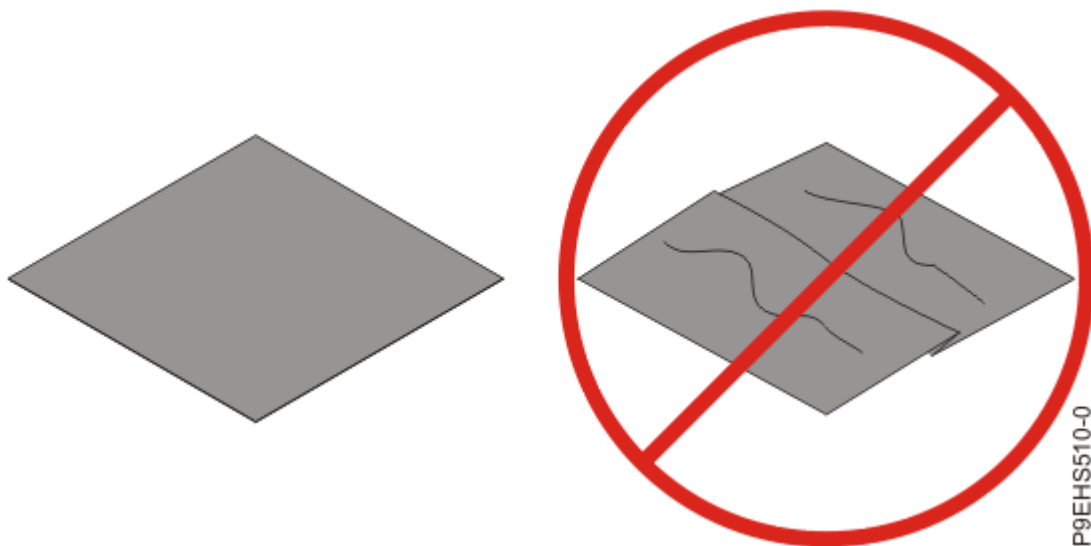

Figure 87. Inspecting the thermal interface material
- 6. Inspect the thermal interface material (TIM) for visible signs of damage, as shown in Figure 87 on page 105. If you see folds, tears, bends, or if you have doubts about the TIM, replace it.